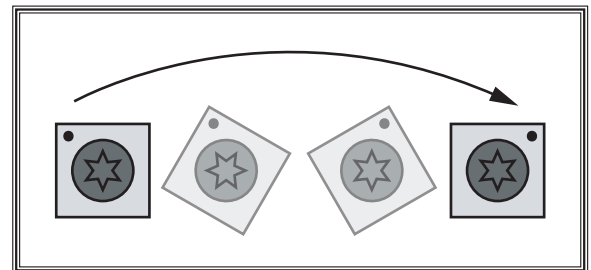

Figure 8. Rotation of insert to reveal fresh cutting edge.
7. Rotate insert 90° and install so that a fresh cutting edge faces outward (see **Figure 8**).